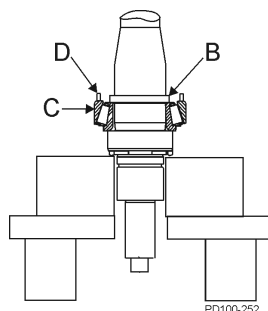

Figure 48 - Install Inner & Outer Spacer and Lower Cup
4. Place the inner spacer (Figure 48, item B) over the shaft onto the lower cone and roller assembly.